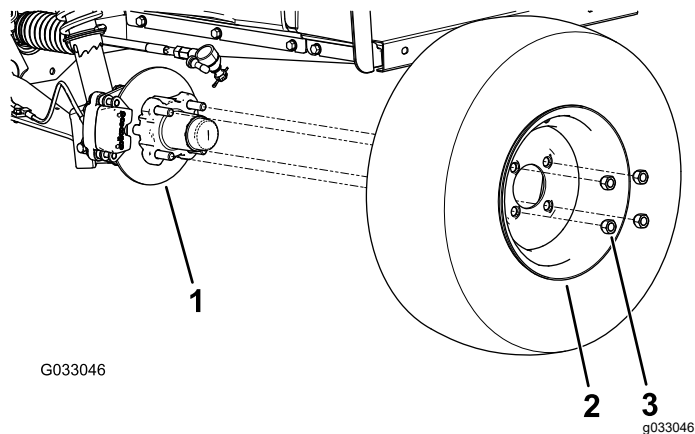

Figure 31
2. Remove the 4 lug nuts that secure the wheel to the hub (Figure 31).
4. Align the holes in the wheel to the studs of the hub and assemble the wheel to the hub with the valve stem outward (Figure 31).
5. Secure the wheel to the hub using the lug nuts (Figure 31).